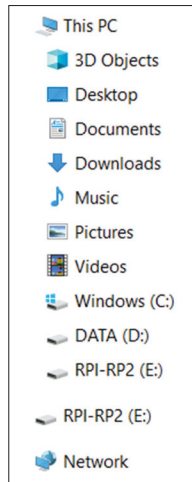

Figure 2.1: Pico as a removable drive RPI-RP2.
- You should see the Pico appear as a removable drive with the name **RPI-RP2** as shown in Figure 2.1 (drive **E:** in this case).